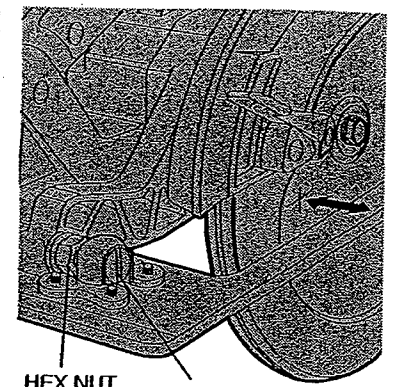

FIG. 12
- Loosen the hex nut shown in Figure 12 and then turn the adjustment screw in or out as needed to adjust for parallelism.
- Adjust the shoe until it is parallel to the blade by measuring from the edge of the shoe to the blade, front & rear. You can measure from the outside edge of the blade to the shoe as shown in Figure 12 or from the inner edge of the blade to the wider part of the shoe. (Do not measure from the tips of any saw blade teeth.)